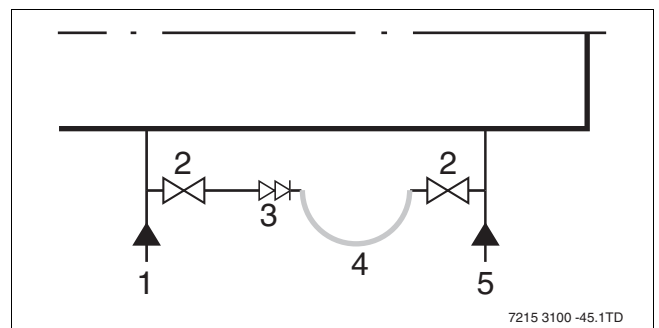

Fig. 45 Connecting filling loop
- Connect filling loop (→ fig. 45).
- Open both stop valves (→ fig. 45).